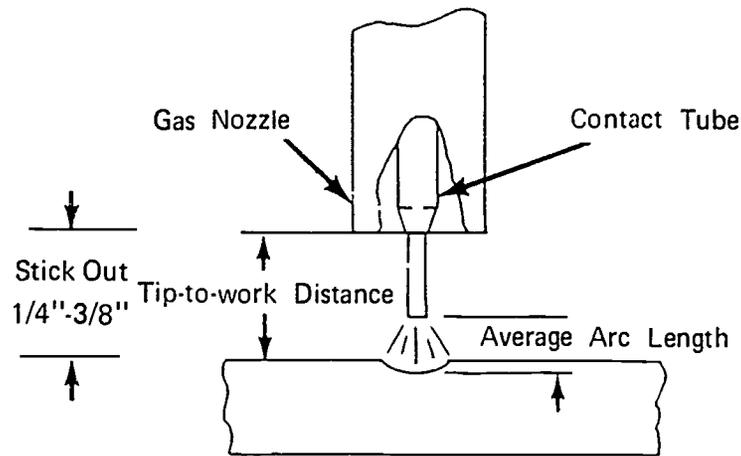

FIGURE 2
- D. Adjust and maintain during welding procedure a stick out of 1/4-3/8 inch. (Figure 2)